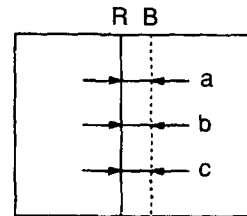

Fig. 3-6
1. Adjust the Y.CROSS (RV1705) and Y.BOW (RV1702) so that RED and BLUE, as shown in Fig. 3-6, become $a=b=c$.